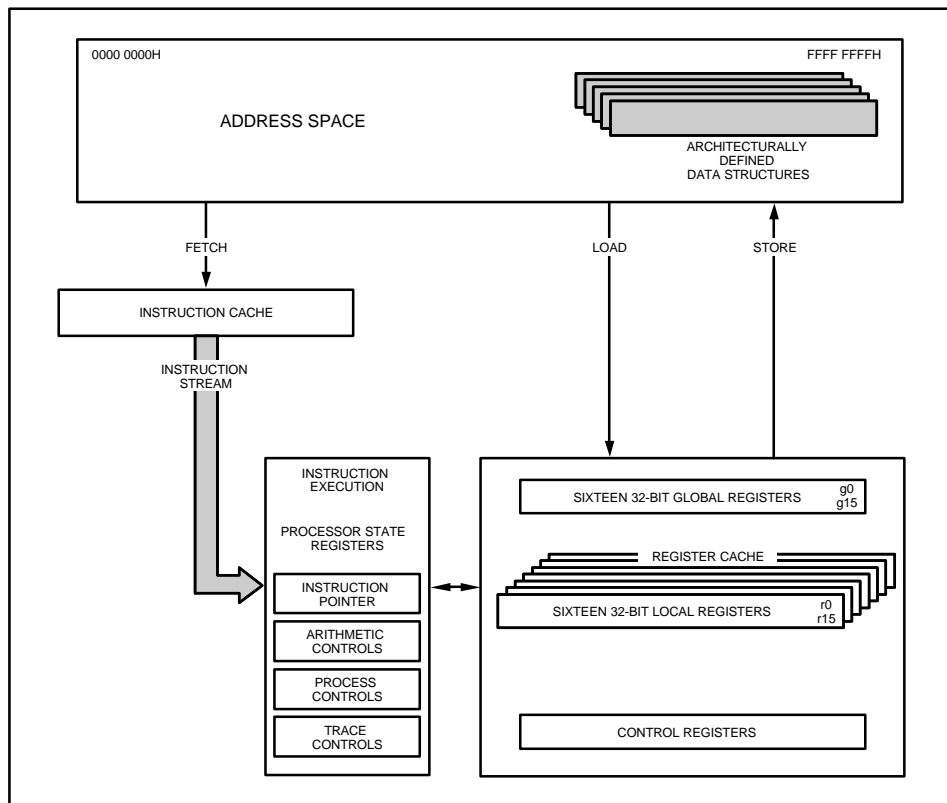

Figure 2. 80960KA Programming Environment
**1. Large Register Set.** Having a large number of registers reduces the number of times that a processor needs to access memory. Modern compilers can take advantage of this feature to optimize execution speed. For maximum flexibility, the 80960KA provides thirty-two 32-bit registers. (See Figure 2.)